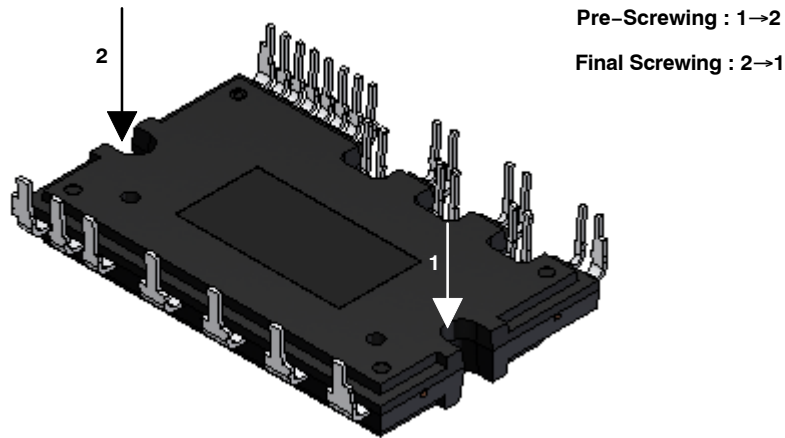

Figure 9. Mounting Screws Torque Order
|                           | See Figure 9             | Recommended 7.1 kg/cm |      |      | kg/cm |
12. Avoid one-sided tightening stress. Figure 9 shows the recommended torque order for mounting screws. Uneven mounting can cause the DBC substrate of package to be damaged. The pre-screwing torque is set to 20 ~ 30% of maximum torque rating.